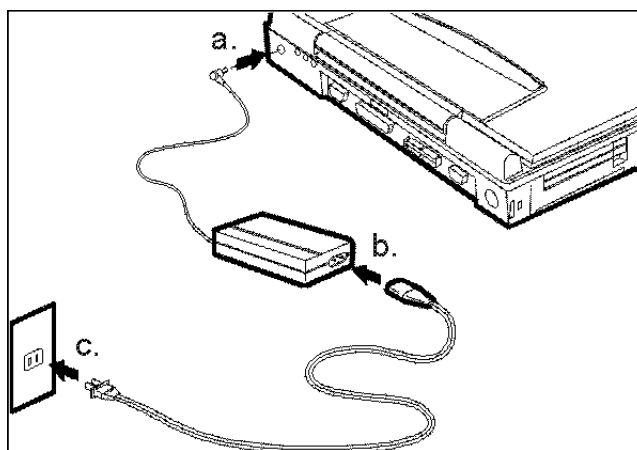

Figure 2-8 Installing the AC Adapter
1. Remove the AC adapter from the packaging. Connect the round coaxial connector supplied with the notebook to the **DC IN** power receptacle on the left rear of the notebook as shown in Figure 2-8 (a).